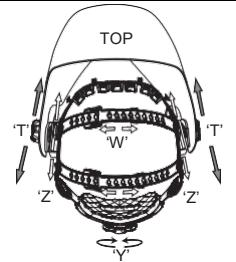

fig. 5
The overall circumference of the headgear can be made larger or smaller by rotating the knob on the back of the headgear (See adjustment "Y" in fig. 5). This can be done whilst wearing the helmet and allows just the right tension to be set to keep the helmet firmly on the head without it being too tight.
- If the headgear is riding too high or too low on your head, adjust the strap which passes over the top of your head. To do this release the end of the band by pushing the locking pin out of the hole in the band. Slide the two portions of the band to a greater or lesser width as required and push the locking pin through the nearest hole (See adjustment "W" in fig. 5).
Step 1: Undo the block nut (See "T" in fig. 5) to adjust the distance between the helmet and your face in the down position.
Step 2: Loosen the block nut on either side of the helmet and slide it nearer or further from your face (See adjustment "Z" in fig. 5). It is important that your eyes are each the same distance from the lens. Otherwise the darkening effect may appear uneven.